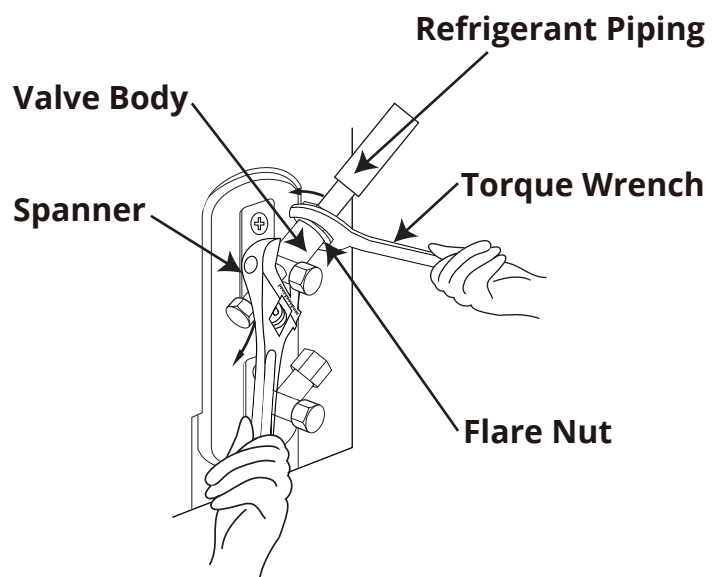

Fig. 7.10
4. Using a spanner, grip the main body of the valve. Do not grip the nut that seals the service valve. **Refer to Fig. 7.10.**
5. While firmly gripping the body of the valve with the spanner, use a torque wrench to tighten the flare nut (**Refer to Fig. 7.10**). Continue tightening the flare nut until the specified torque rating in the table on the previous page (based on pipe size) is achieved.
When tightening the flare nut, use the spanner to grip the main body of the valve. Refer to Fig. 7.10 below. Gripping in any other location could cause damage to the unit, as the torque from tightening the flare nut could cause other parts of the valve to break.